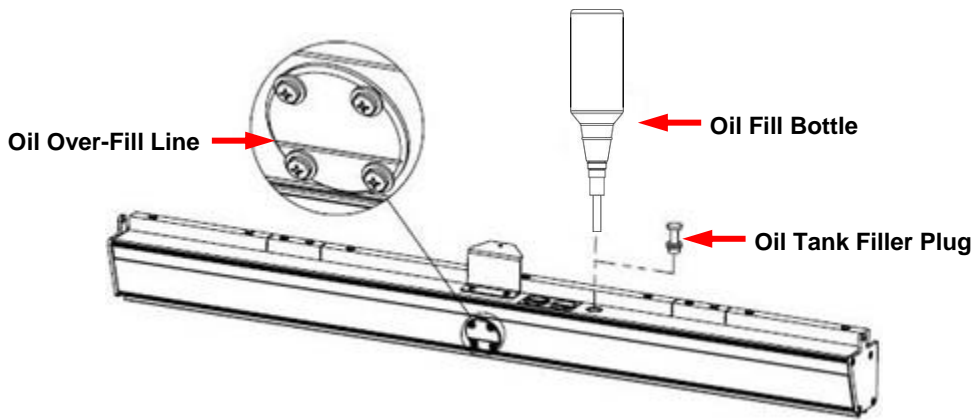

Figure 3- 44
2. Remove the plug from the top of the oil tank as shown in Figure 3- 44 on the next page.
4. Press down on the bottle and hold until either all of the oil has drained from the bottle into the tank, or until oil ceases to flow. The tank is full when the oil level reaches just below the over-fill shown in Figure 3- 44. **DO NOT OVERFILL!**